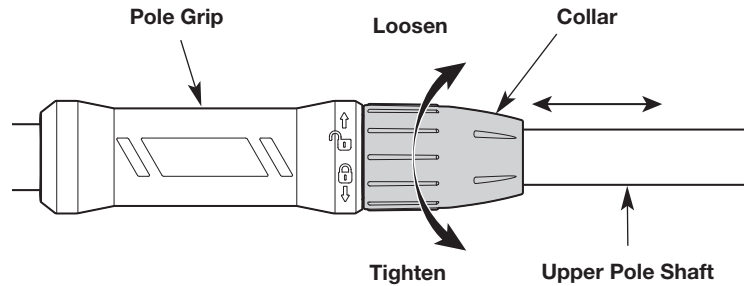

Fig. 3
1. Hold the pole grip firmly with one hand (Fig. 3).
2. Rotate the collar clockwise to unlock the collar (Fig. 3).
3. Slide the upper pole shaft up or down to achieve the desired length (Fig. 3).
4. Rotate the collar counterclockwise to lock the collar and the upper pole shaft securely in place (Fig. 3).